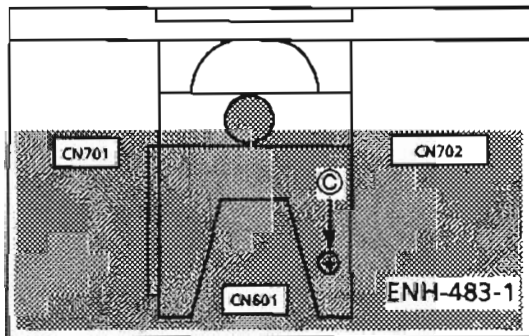

Fig. 3 UP SIDE
2. Remove the 2 screws ③. Disconnect the CN601. (Fig.3)
2. Disconnect the CN701 and CN702. (Fig.3)
3. Remove the 2 screws ⑦.
4. Release the hooks ⑧ holding the front panel, and remove the front panel assembly.